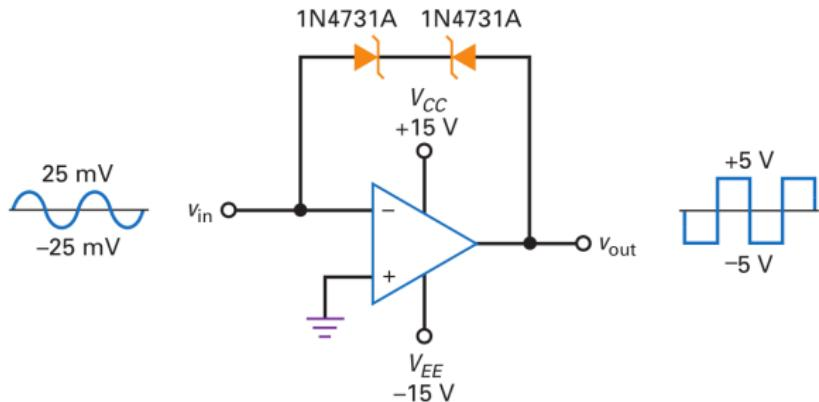

Figure 13: Bounded outputs using Zener diodes
- ▶ If so, we can bound the output by using back-to-back zener diodes, as shown in Fig. 13.
- ▶ In this circuit, as shown in Fig. 13, the inverting comparator has a bounded output because one of the diodes will be conducting in the forward direction and the other will be operating in the breakdown region.